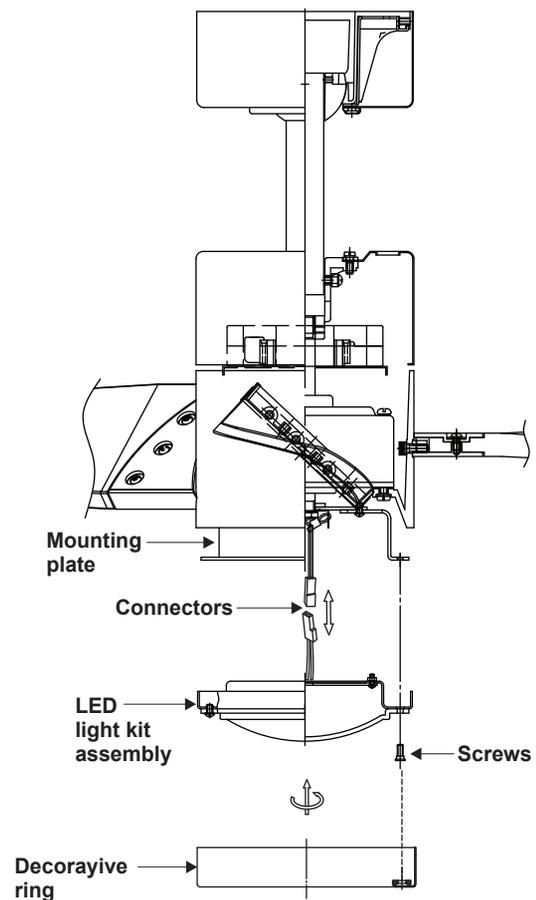

Figure 15
2. Raise and hold the LED light kit close to the mounting plate and proceed to do the wire connections. Make the 2-pin wire connections: (Fig. 15)
3. Place the key holes from the LED light kit over the 2 screws previously loosened from the mounting plate, turn light kit until it locks in place at the narrow section of the key holes. Secure by tightening the 2 screws previously loosened and the one previously removed. (Fig. 15)